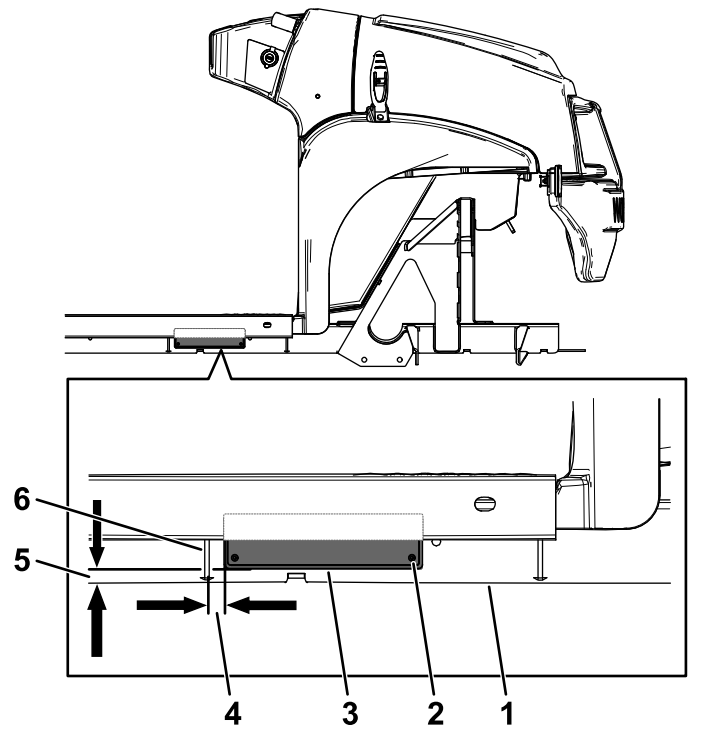

Figure 6
- Install the serial plate using 4 pop rivets (3 x 10 mm) in the location shown in Figure 6.